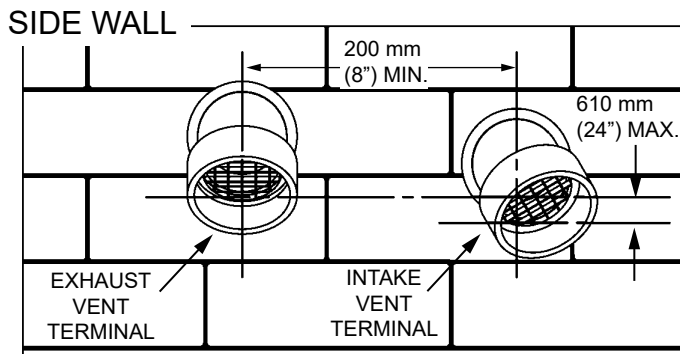

Figure 16. Sidewall Vent Clearances*
Important: When terminating the vent on a side wall, the following specifications pertaining to terminal location must be followed. See *Figure 16*.
4. To avoid exhaust recirculation, the air intake terminal may be rotated away from the exhaust vent terminal. See *Figure 16*.